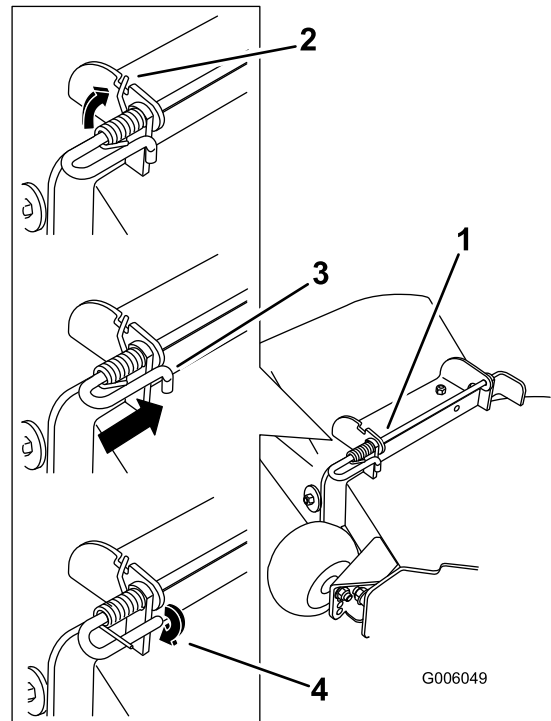

Figure 65
4. Lift the long end of the spring and place it into the notch on the deflector assembly bracket (Figure 65).
5. Secure the rod and spring assembly by twisting it so the short end of the rod can be placed behind the front bracket welded to the deck (Figure 65).